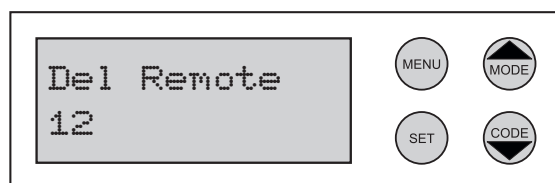

Fig. 17
- 2 The display will show Del Remote XX (Fig. 17).